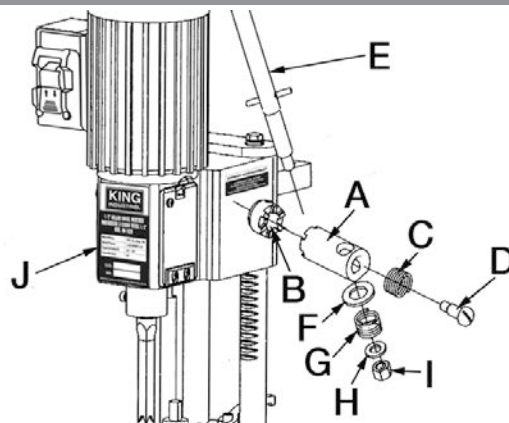

FIGURE 4
Assemble the hub (A) Fig.4 of the handle assembly to the end of the pinion shaft (B) using spring (C) and screw (D).
Insert handle (E) Fig.4 into the hub (A) and secure it using washer (F), spring (G), washer (H) and hex. nut (I).
Raise mortising machine head (J) Fig.4 to the up position by turning handle (E) clockwise.